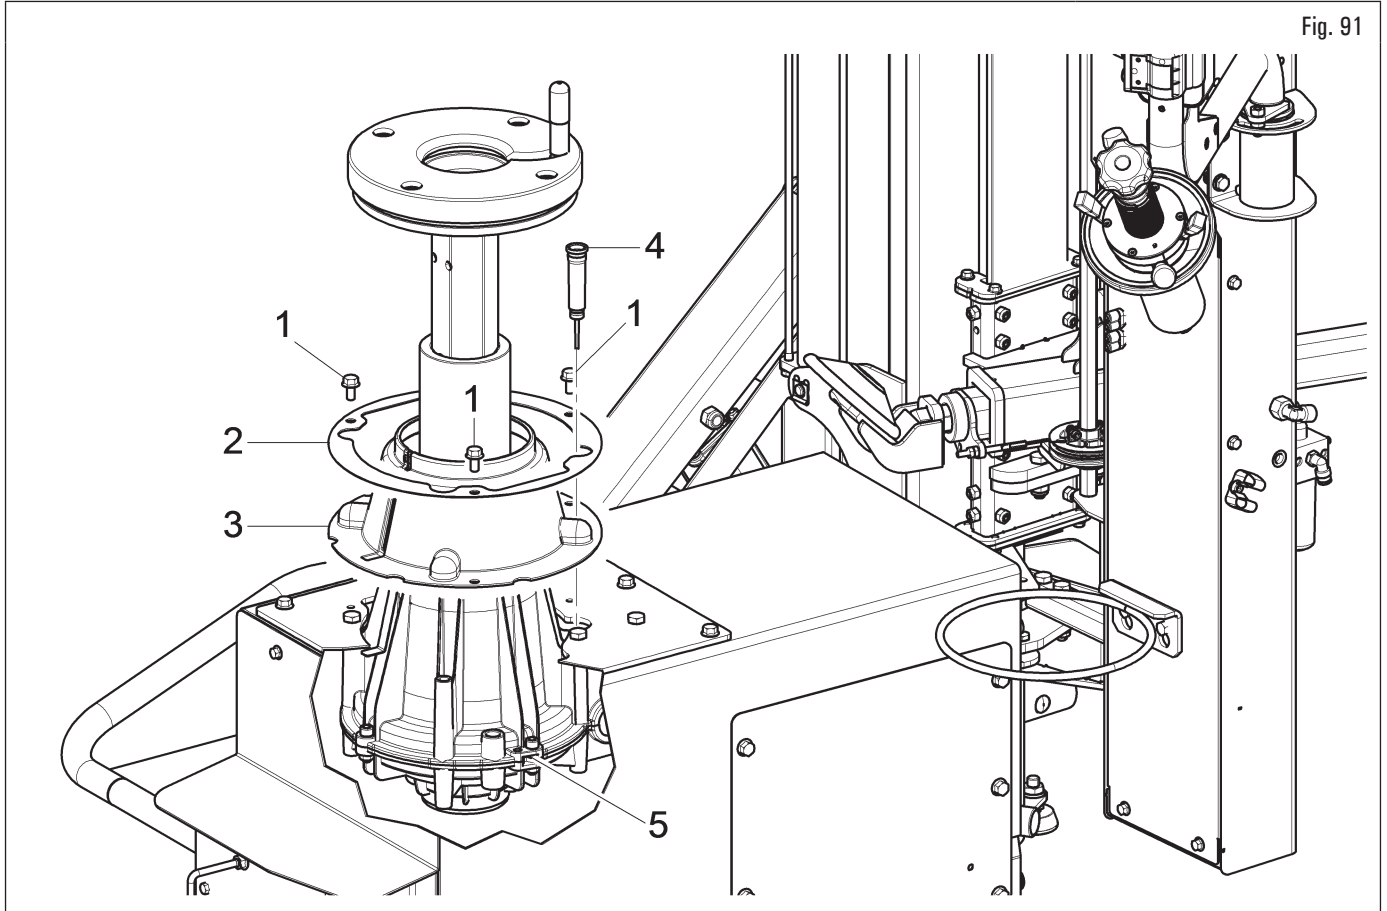

Fig. 91
- At regular intervals, (at least every 100 working hours) check reduction gear (Fig. 91 ref. 5) lubricating oil level. Such operation must be performed removing the bolts (Fig. 91 ref. 1), removing the flange (Fig. 91 ref. 2), the guard (Fig. 91 ref. 3) and the plug (Fig. 91 ref. 4) on the reduction gear.